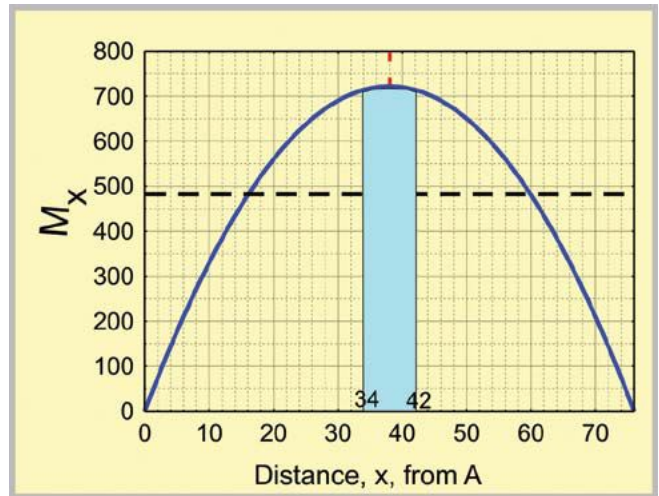

Fig.8. Bending moment distribution for a uniformly loaded Almen strip.
Plotting equation (5) yields Fig.8. Again we have a parabolic shape.
We could explore uses for the distribution shown in fig.8. However, tutorial time is up—let’s go for a beer.”
We see from fig.8 that the bending moment is highest at the center of the strip and disappears at the ends of the strip. The relative contribution to bending of any given portion of the strip is its corresponding area under the curve. One such contribution has been included in fig.8 representing a portion 8 mm wide straddling the center of the strip. The area in blue is some 8 mm x 720 = 5760 (in arbitrary units). Four millimeter-wide portions at the ends of the strip would each contribute (as “half base times perpendicular height”) some 2 mm x 135 = 270 giving a total of 540. This is less than a tenth of the contribution by the same width of central portion. These areas can, however, be determined more precisely by using integral calculus.
Consider next the area of the blue region shown in fig.8. The “limiting values” are 34 for **a** and 42 for **b**. The equation for the integral is more complicated than that for the straight line of the previous example.
The relative contribution of the 8 mm-wide central portion is therefore  $5,755/36,580 = 0.157$  or 15.7% of the total. We can compare this contribution with that for two, 4 mm-wide, end portions of our peened Almen strip. Using  $b = 4$  and  $a = 0$ , we get that the corresponding area under the fig.8 curve is 293 which is the same as when using  $b = 76$  and  $a = 72$ . Hence the combined contribution of the two 4 mm-wide end portions is 586. This is only a tenth of the contribution to deflection being made by the central 8 mm wide portion thereby agreeing with the previous manual estimate. As an important practical point we can conclude that: